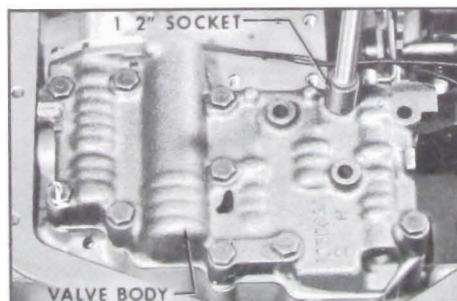

Figure 5-115
8. Remove eleven (11) valve body to case bolts only using a 1/2" socket. Do not remove valve body. See Figure 5-115.